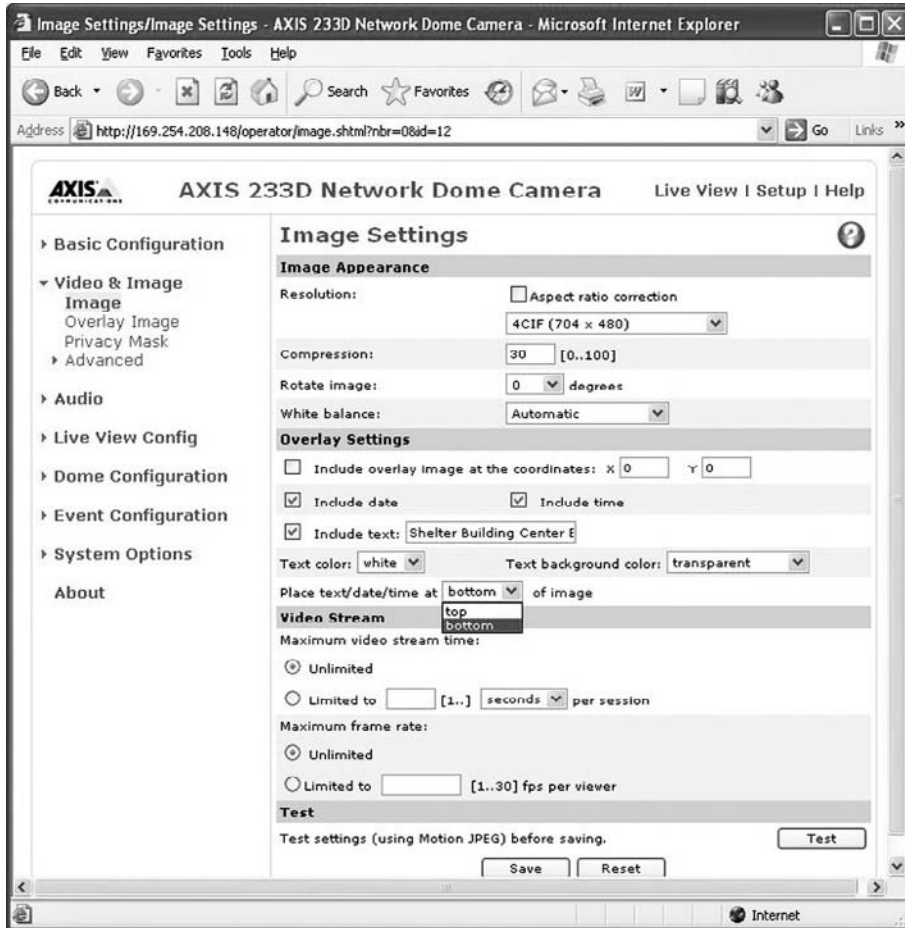

FIGURE 3-23 Web interface of an IP camera.
- Place text/date/time at: Bottom (see Figure 3-23).